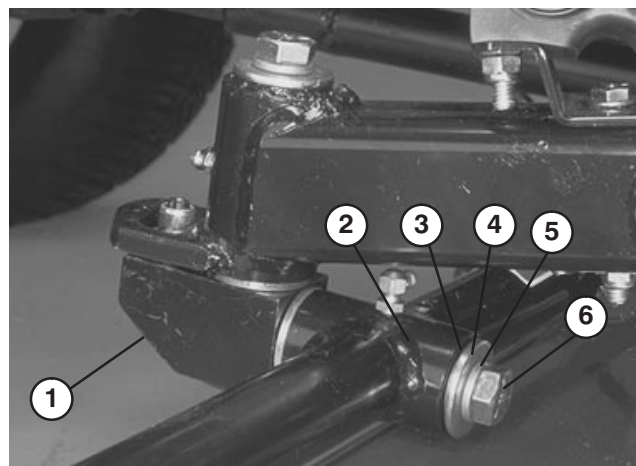

Figure 9
7. Align the mounting shaft of the cutting unit with the pivot tube on the carrier frame. Insert the shaft into the tube (Fig. 9).
8. Secure shaft in pivot tube with a thrust washer, flat washer, lock washer, and cap screw (Fig. 9).